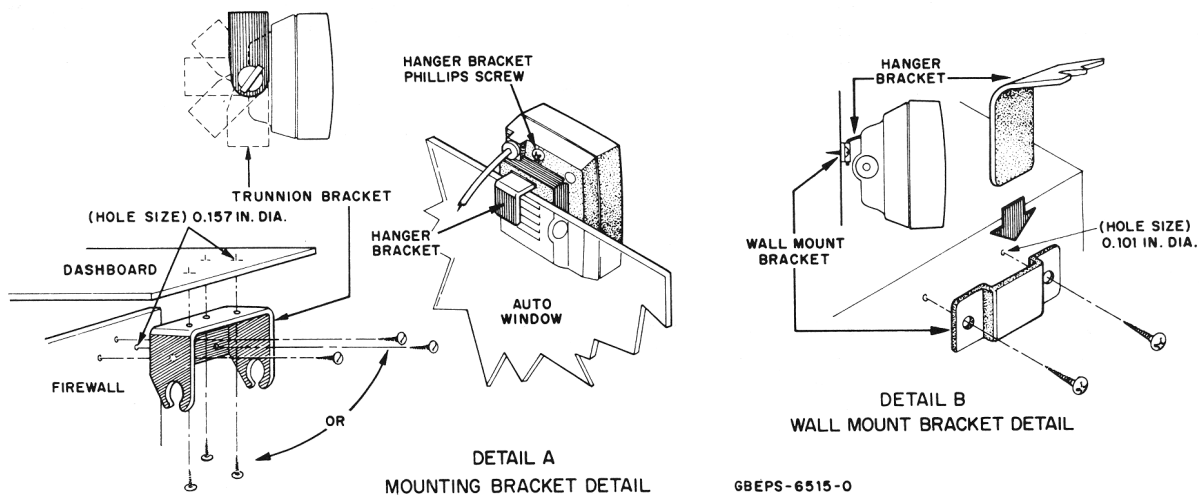

Figure 1. Physical Installation Details
1.4 The speaker/amplifier includes a trunnion bracket, hanger bracket, and wall mount bracket, which permits the speaker to be mounted in a variety of ways. Refer to Details A and B of Figure 1. The trunnion bracket provides a large variety of permanent mountings (dashboard and accessible firewall areas) for the speaker while permitting it to be tilted or angled for best results. The hanger bracket (already attached to the speaker) by itself permits temporary mounting on projections such as automobile windows, etc. In this case, the trunnion bracket must be removed. The wall mount bracket can be used for permanent mountings if the trunnion bracket is too large to fit in some inaccessible areas. In this case, the trunnion bracket is removed and the speaker is attached to the wall mount bracket by the hanger bracket. Security screws are included for optional use in place of wing screws.
2.2 TRUNNION BRACKET INSTALLATION PROCEDURE (Refer to Detail A of Figure 1.)
2.3 WALL MOUNT BRACKET INSTALLATION PROCEDURE (Refer to Detail B of Figure 1.)